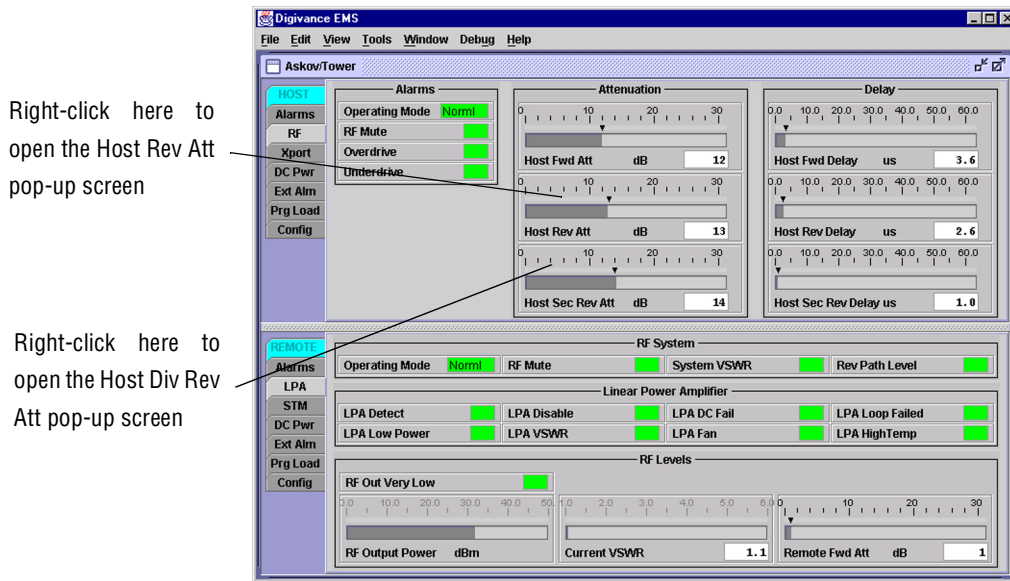
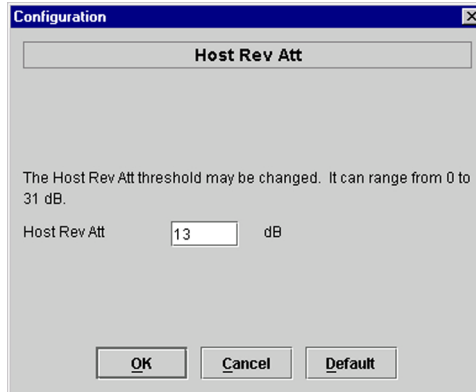

Figure 4-12. HOST RF Display
Figure 4-13. Host Rev Att Pop-Up Screen
4. Click on the HOST **RF** tab. The HOST **RF** display will open within the DEMS main window as shown in Figure 4-12.
5. Right-click on the **Host Rev Att** section of the display (see Figure 4-12). The **Host Rev Att** pop-up screen will open as shown in Figure 4-13.